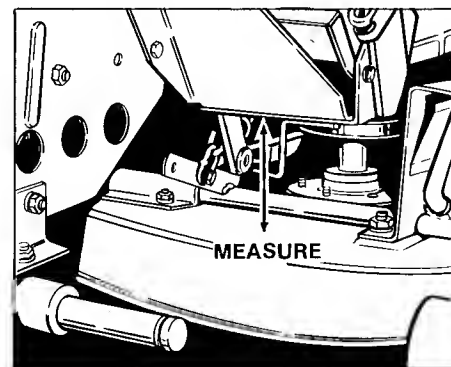

Figure 44. Measurement - Large Lift Lever - 36" Mower
2. Measure the distance from bottom edge of lever bracket to mower deck (figure 44).